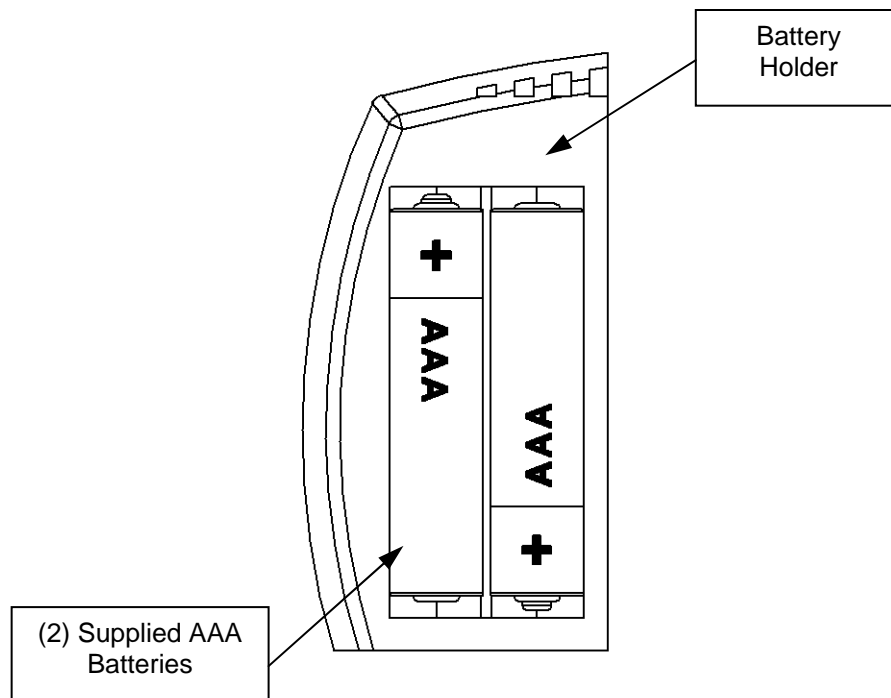

Figure 31
Step 4: Install the (2) supplied AAA batteries into the battery holder of the Setback Control, as shown in Figure 31.